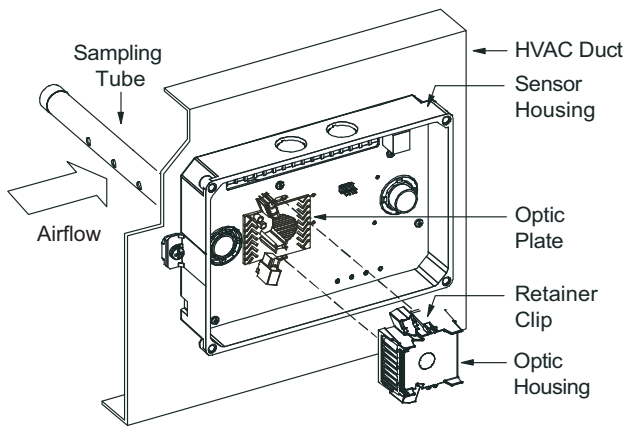

Fig. 48 — Sensor Cleaning Diagram
1. Disconnect power from the duct detector then remove the sensor's cover. See Fig. 48.